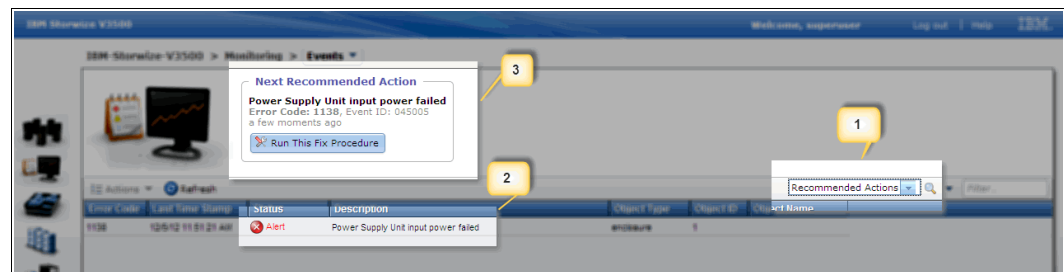

Figure 9-49 Alert in event log
The default filter in the error log view (as show in Figure 9-49) is Recommended actions (1). This option lists the alert event only (2) and shows the recommended action to be run first (3).